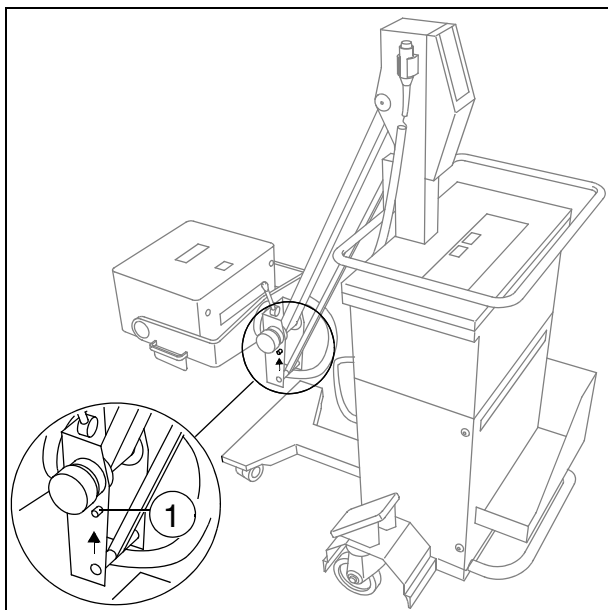

Fig. 1
- Move the arm into the lowest position and check whether the safety mechanism (bolt 1 / Fig. 1) is locked into position.